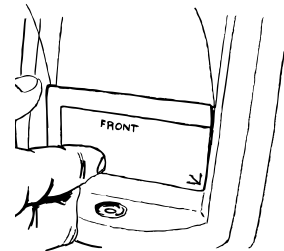

Figure K-2
- Alignment of the screen protector to the bezel (frame) of the DV3T is critical. Be sure to avoid mis-alignment which may result in the screen protector contacting or locating under the bezel (frame). A foam alignment tool is attached to the screen protector's outer layer and should be used to locate the screen protector to the lower right hand corner of the touch screen (see Figure K-2).